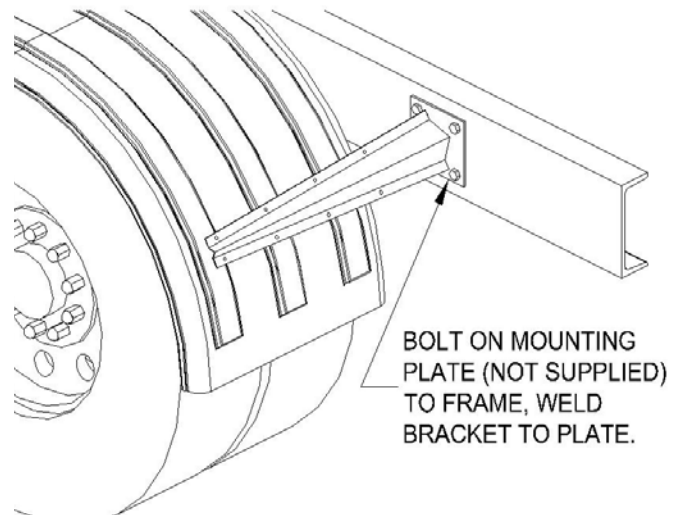

Figure 5
B. Weld fender bracket to frame. You can bolt a plate (not supplied) to the frame and weld to that plate or just weld the brackets right to the frame if preferred. **Check your owners' manual before welding directly to the frame. Most manufactures suggest that you do not weld anything directly to the frame.** Make sure the brackets are aligned to the fender prior to welding. Plate should be a minimum of ¼" thick steel. See Figure 5.